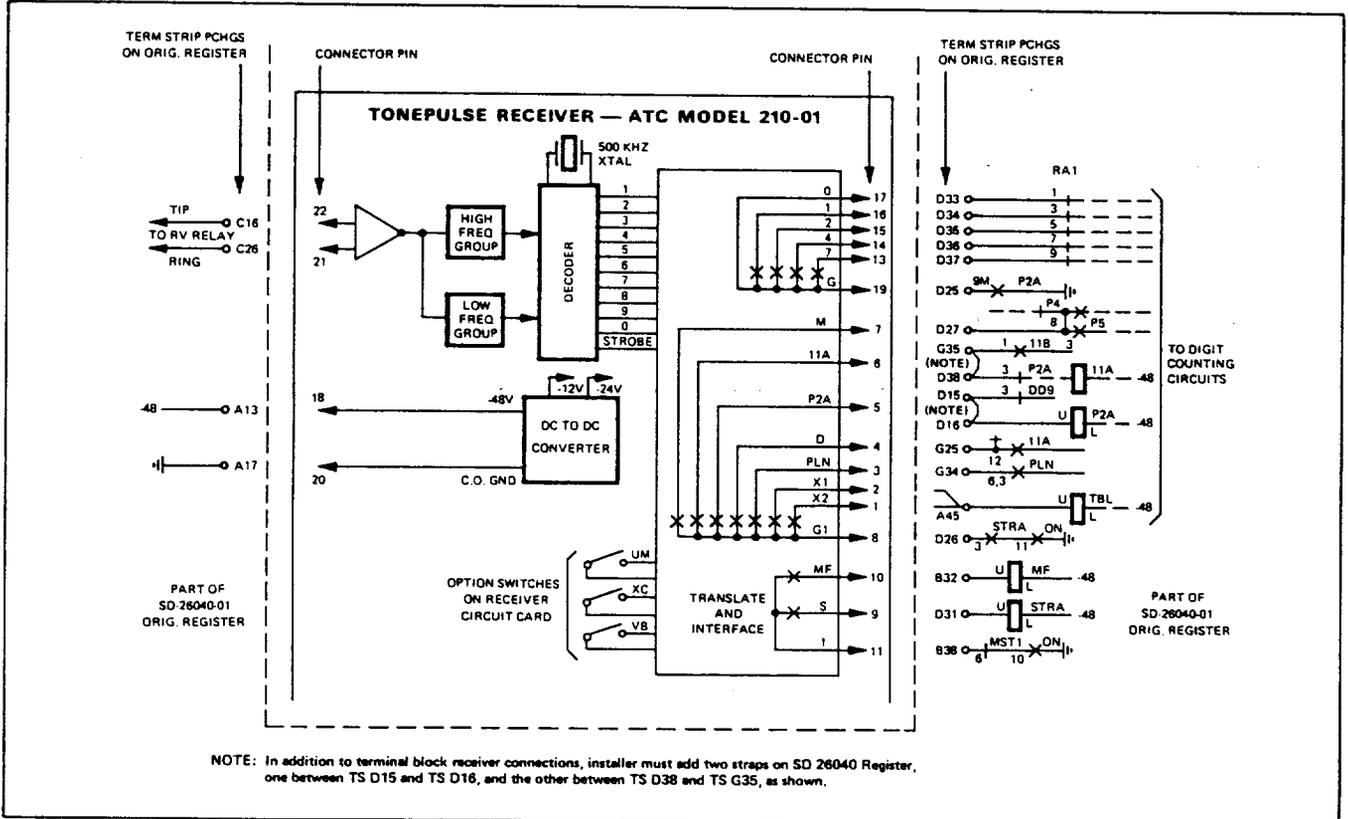

FIGURE 2 - FUNCTIONAL SCHEMATIC MODEL 210-01 RECEIVER
2.03 OUTPUT CODES (See Figure 2, Functional Block Diagram)
3.0 THEORY OF OPERATION (See Figure 2)